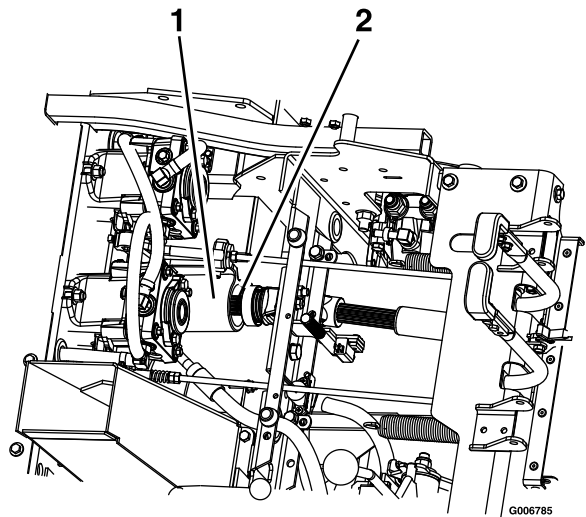

Figure 71
- Raise the seat and disconnect the drive shaft using the quick coupler at the jackshaft (Figure 71).
- Raise the seat and install the 1 drive shaft onto the jackshaft (Figure 71)